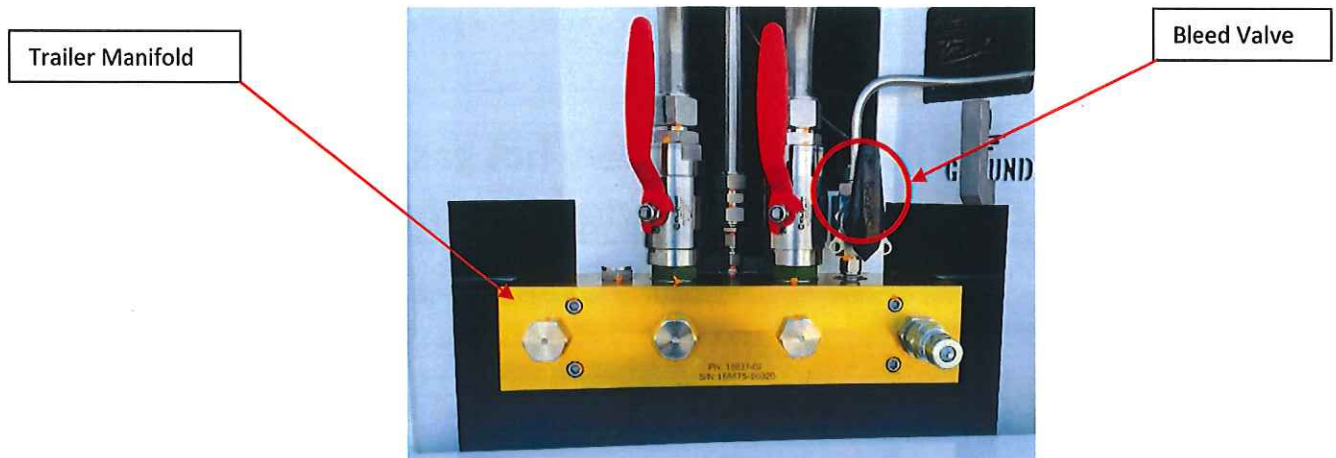

Figure 21: Bleed Valve in "Open" Position
17. Vent the manifold by opening the bleed valve as shown in Figure 21.